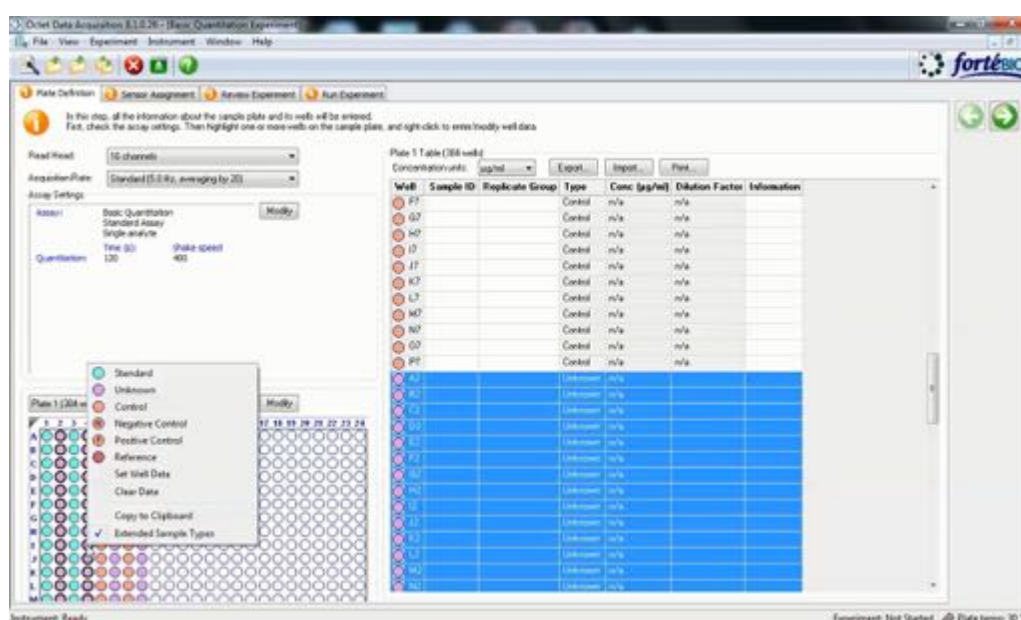

Figure 7-19: Plate Definition Window—Designate Unknown Wells
To designate unknowns in the **Sample Plate Map**, select the wells to define as unknown, right-click and select **Unknown**. The unknown wells are marked in the plate map and the **Sample Plate Table** is updated (see Figure 7-19).
1. In the **Sample Plate Map**, select the unknown wells (see Figure 7-19).